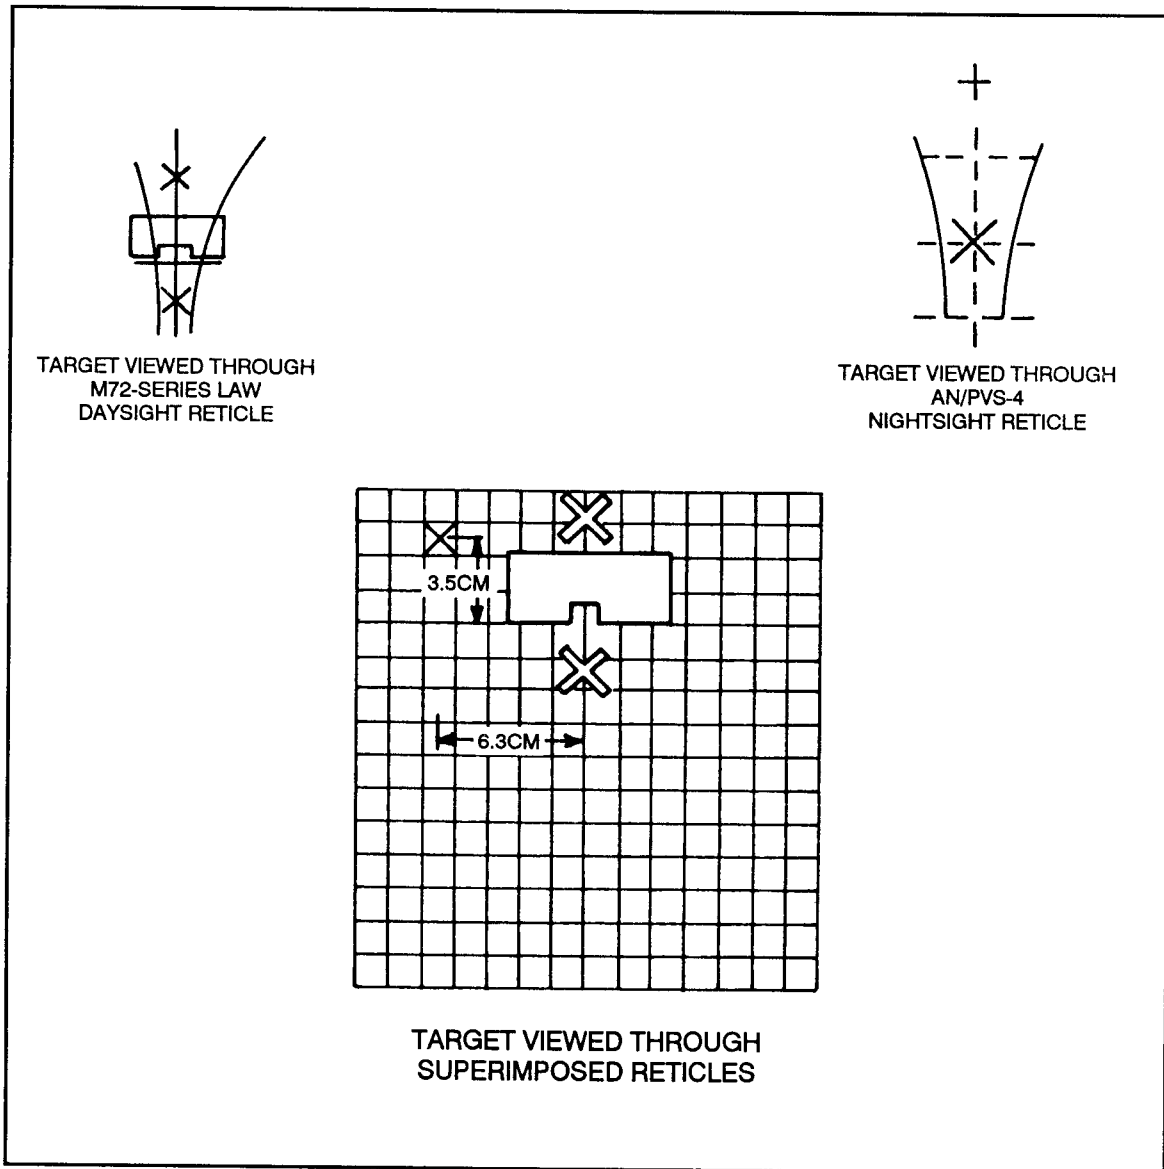

Figure 2-14. M72A1 alignment target for the AN/PVS-4.
(5) Align the nightsight's reticle pattern to the LAW sights only once. After that, you can move the nightsight from LAW to LAW without having to realign it each time (Figure 2-14, page 2-12). To align the sight reticle pattern to the LAW sights, place a target at 25 meters. Install the mounting bracket and sight, and select a stable firing position for the LAW. Turn both the TUBE BRIGHTNESS and RETICLE BRIGHTNESS knobs ON. Align the 200-meter range mark on the daysight with the aiming point on the target. Without moving the LAW, adjust the nightsight reticle so that its 200-meter range mark coincides with an aiming point 6.3 centimeters left and 3.5 centimeters above-the target aiming point.